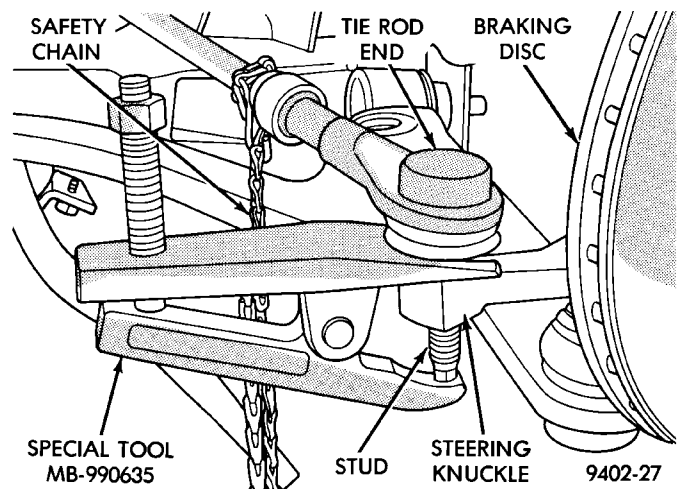

Fig. 21 Tie Rod End Removal From Steering Knuckle
(10) Remove the tie rod end stud from steering knuckle arm, using Remover, Special Tool MB-990635 (Fig. 21).